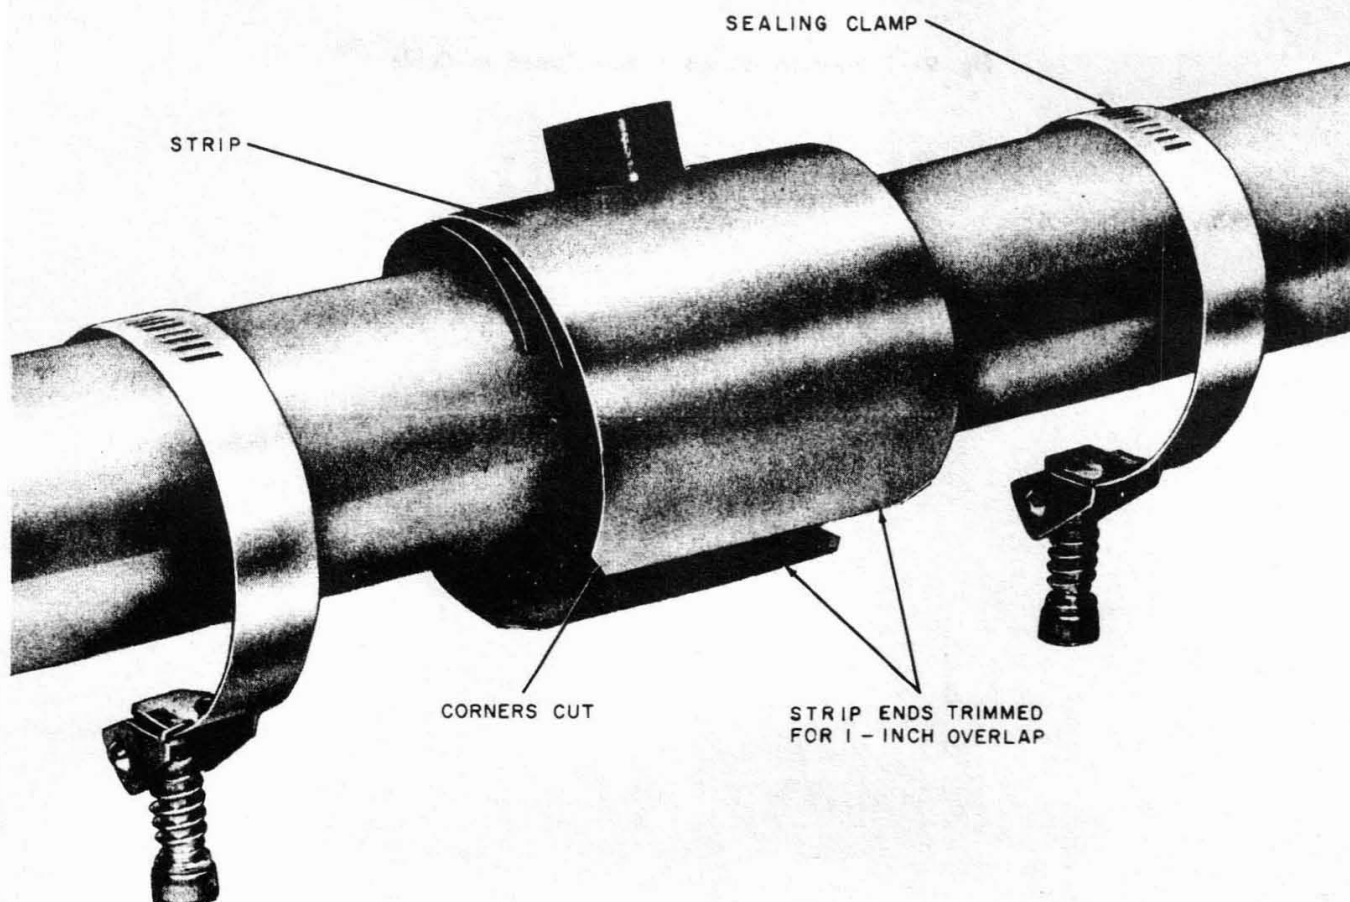
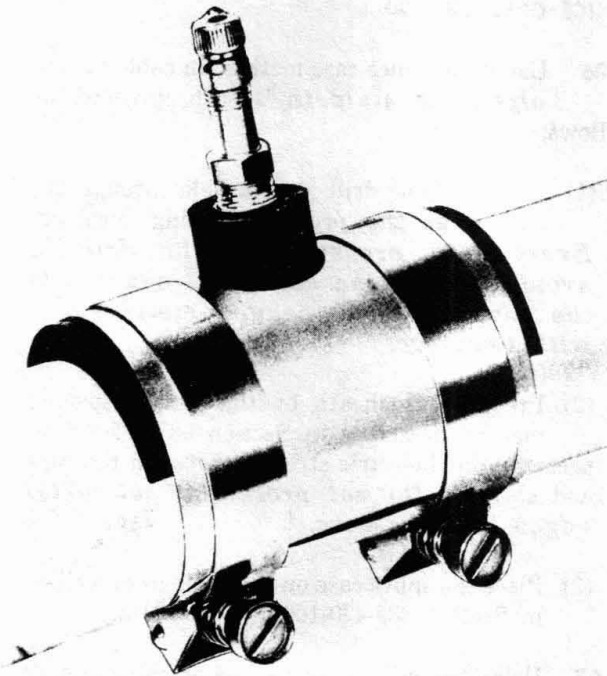

Fig. 10—Strip Formed Around Saddle and Cable
Fig. 11—F Pressure Flange Installed
(9) Place the hole in the strip of sheet metal over the flange and form the strip snugly around the flange. Using shears, cut one end of the strip so the end lies directly under the cable and parallel to it (Fig. 10).
(10) Cut the other end of the strip in like manner so that its edge overlaps the first edge by about 1 inch.
(11) Cut 45-degree 1/4-inch corners off the strip; then, smooth all cut edges with a file.
(12) Position the sealing clamps on the strip near the flange ends, with the heads of the tightening screws at the bottom of the cable, and tighten securely. Alternately tighten until both clamps are secure.
(13) ♦Inspect the threads of the valve or fitting to be installed in the flange to ensure that they are free from burrs and nicks that would prevent a good air seal. To prevent the engaged threads from galling or seizing, the male threads shall be coated with pipe-stick, teflon pipe-sealing tape, or teflon pipe-sealing spray. Holding the neck portion of the flange between the thumb and finger, screw the valve or fitting into the brass insert of the flange, using a suitable wrench, and then tighten **carefully** until the neck portion begins to twist (approximately 40 inch-pounds torque). The F pressure flange is shown installed in Fig. 11.